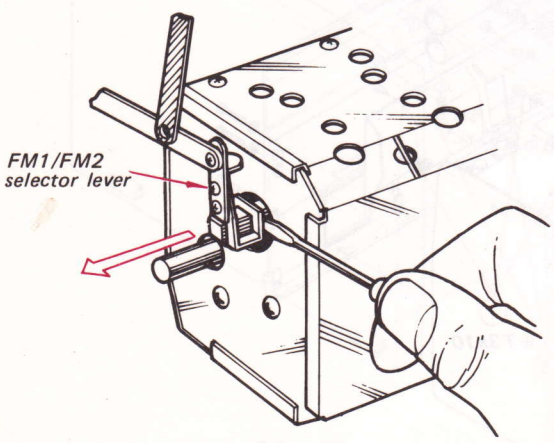

Fig. 2-6
4. Remove the FM1/FM2 selector lever as shown in Fig. 2-6.